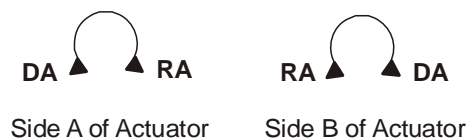

Figure 12: Mode Selection
Actuators have an external mode selection switch to reverse control logic. The switch is accessible from both A and B sides of the actuator as illustrated in Figure 12. Actuators are delivered in Direct Acting (DA) mode and can be switched by the user to Reverse Acting (RA) mode.